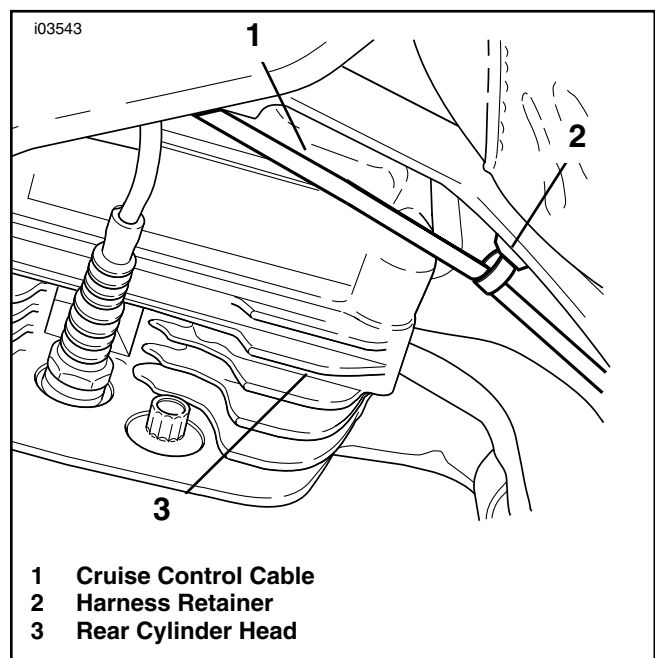

Figure 2. Attaching Cruise Cable (Left Side View)
5. See Service Parts Illustration. Obtain the Cruise Control Module (1) with cruise cable attached and three Grommets (4) from kit. Install the grommets on studs of cruise control module. with small diameters outward.
6. See Figure 2. While holding cruise control module in place near its mounting location, feed the cruise control cable through the hole in frame crossmember plate and route under rear spark plug wire staying on inner side of fuel line components. Carefully curve cable toward the right and continue routing up under the fuel tank and over the top of the engine stabilizer bracket, then down between cylinder heads. Leave in place temporarily. See Service Parts Illustration and obtain the harness retainer (3) from kit and secure the cruise cable to crossmember plate with barb as shown. On California models, remove the EVAP hose from cable clip and secure hose with one of the cable ties (6).